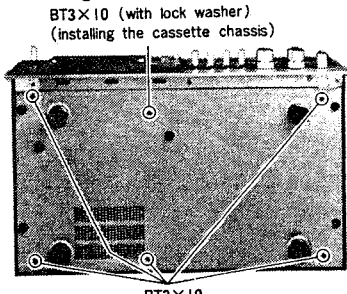

Fig. 3 Abb. 3
4. **Bottom cover (Fig. 3)**
9. **Cassette chassis (Figs. 3, 10)**
Remove the 5 cassette chassis installation screws shown in the figures 3 and 10.
4. **Bodenplatte (Abb. 3)**
9. **Cassetten-Chassis (Abb. 3, 10)**
4. **Plaque inférieure (Fig. 3)**
9. **Châssis de magnétocassette (Fig. 3, 10)**